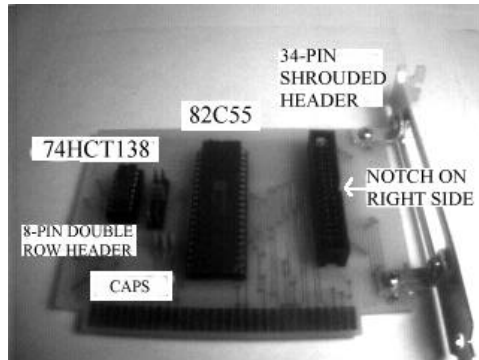

Figure 2: Photo of finished 8255 Card
2. Solder the 34-pin shrouded header. **Note that its notch should face right**, (see Figure 2)